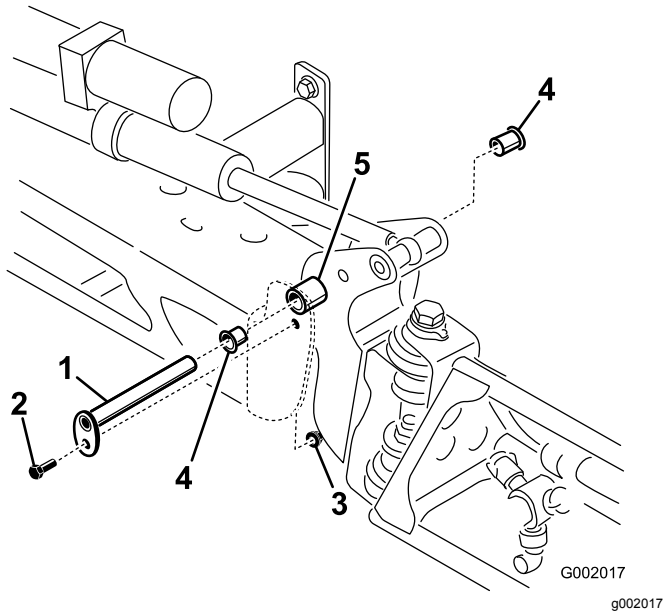

Figure 101
- With the weight of the boom supported, remove the bolt and nut securing the pivot pin to the boom assembly (Figure 101).
- Remove the bolt and nut that secure the pivot pin, and remove the pin (Figure 101).
- Remove and inspect the nylon bushings from the front and back sides of the pivot bracket (Figure 101).
- Place a small amount of oil on the nylon bushings, and install them into pivot bracket (Figure 101).
- Install the boom and pivot bracket assembly into the center frame, aligning the holes (Figure 101).